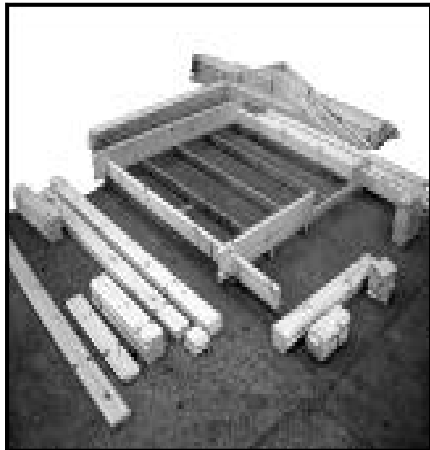

Fig E1-example
- Using parts list for each wall layout correct quantity (fig E1) of each component for relevant wall (i.e. front, back) in suitable position for ease of assembly.